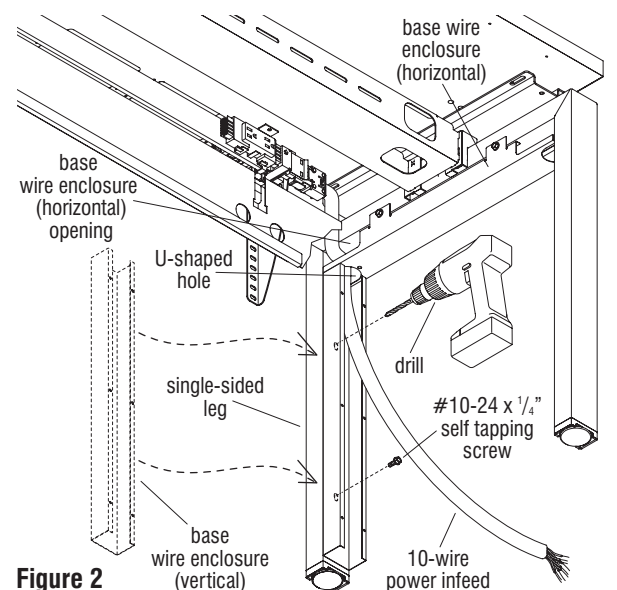

Figure 2
6. To pre-drill mounting holes for the base wire enclosure (vertical), first place the cover straight against the vertical leg member, and up tight under the U-shaped opening as illustrated with power routing into the wire enclosure. Mark through the wire enclosure mounting holes inside the channel, and onto the inside of the leg then set the wire cover aside. Use a #4 or $\frac{7}{32}$ " drill bit in a drill driver to carefully bore two holes at the center of the marked locations. Take care to not drill through the other side of the leg (Figure 2).
7. Position the base wire enclosure (vertical) back up against the leg, aligning the mounting holes of the enclosure with the pre-drilled mounting holes in the leg. Make sure the wire enclosure is straight and secure the enclosure to the inside of the leg using two #10-24 x $\frac{1}{4}$ " screws. Take care to not over tighten (Figure 2).